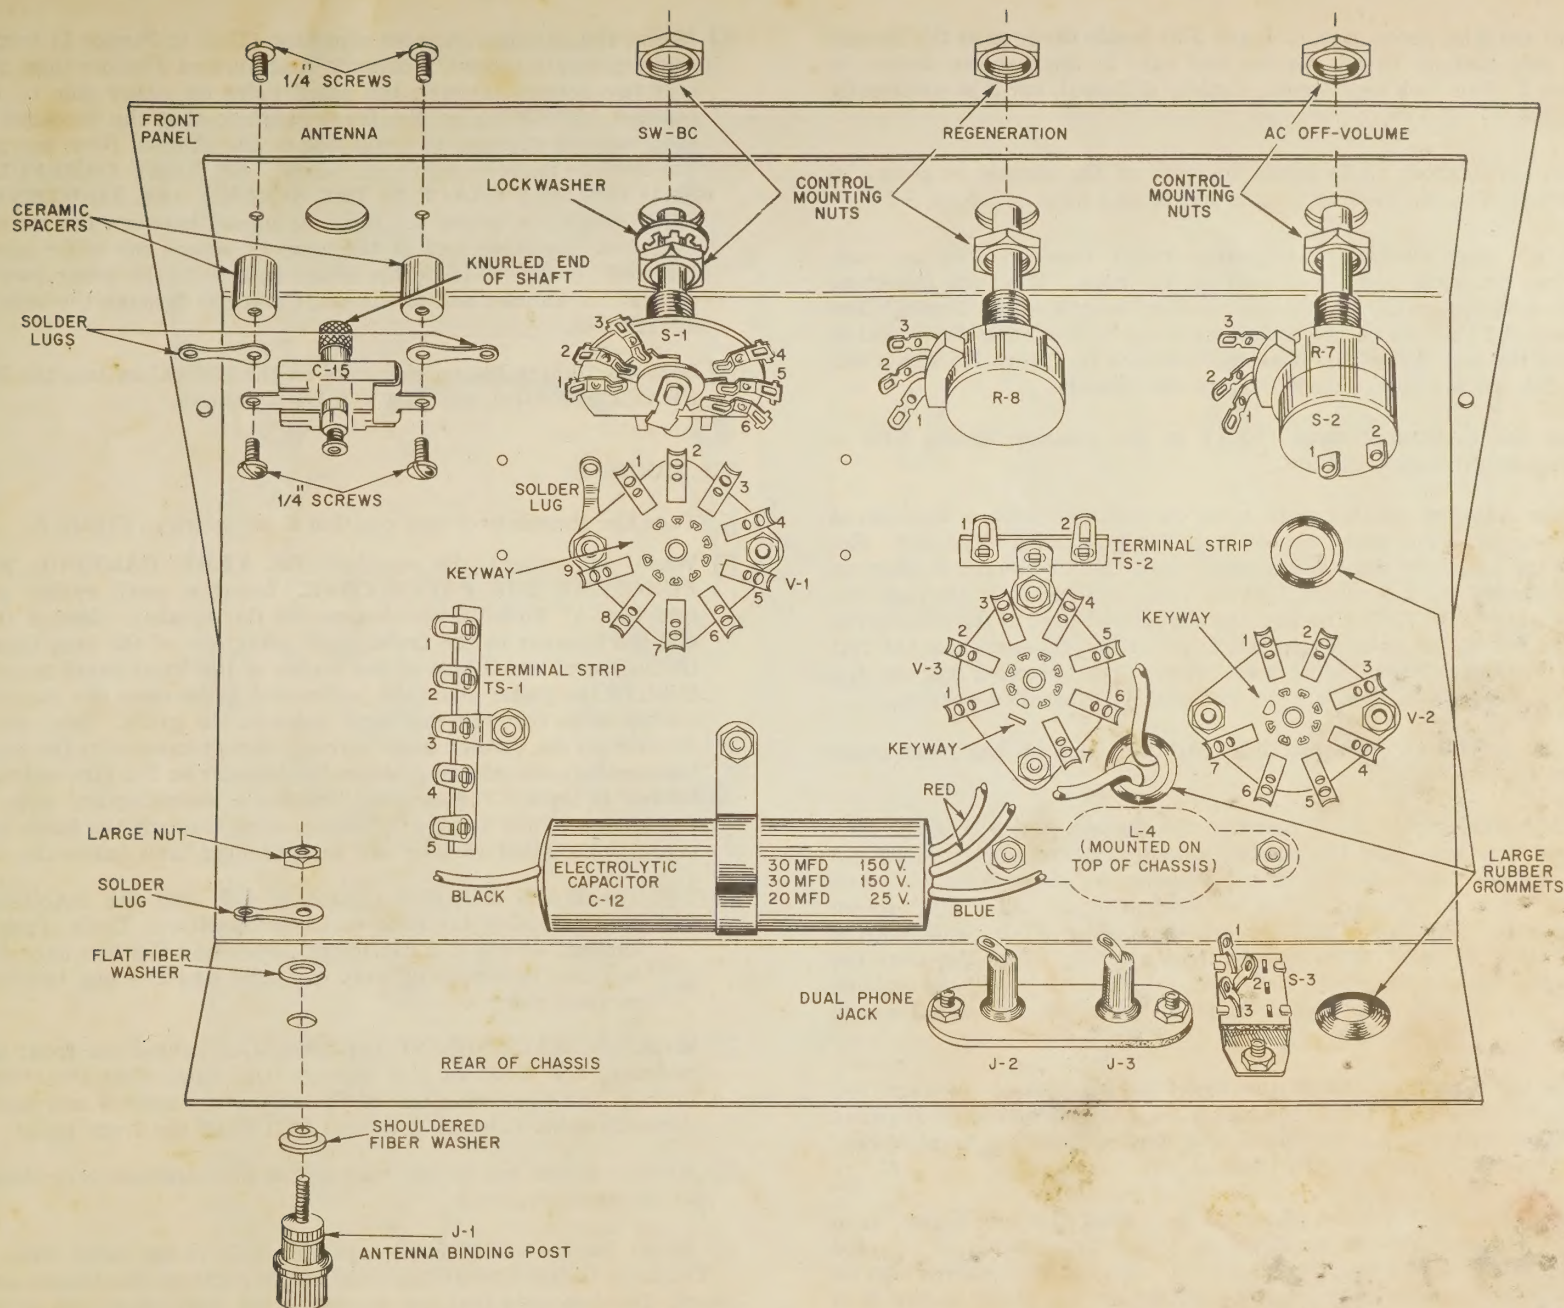
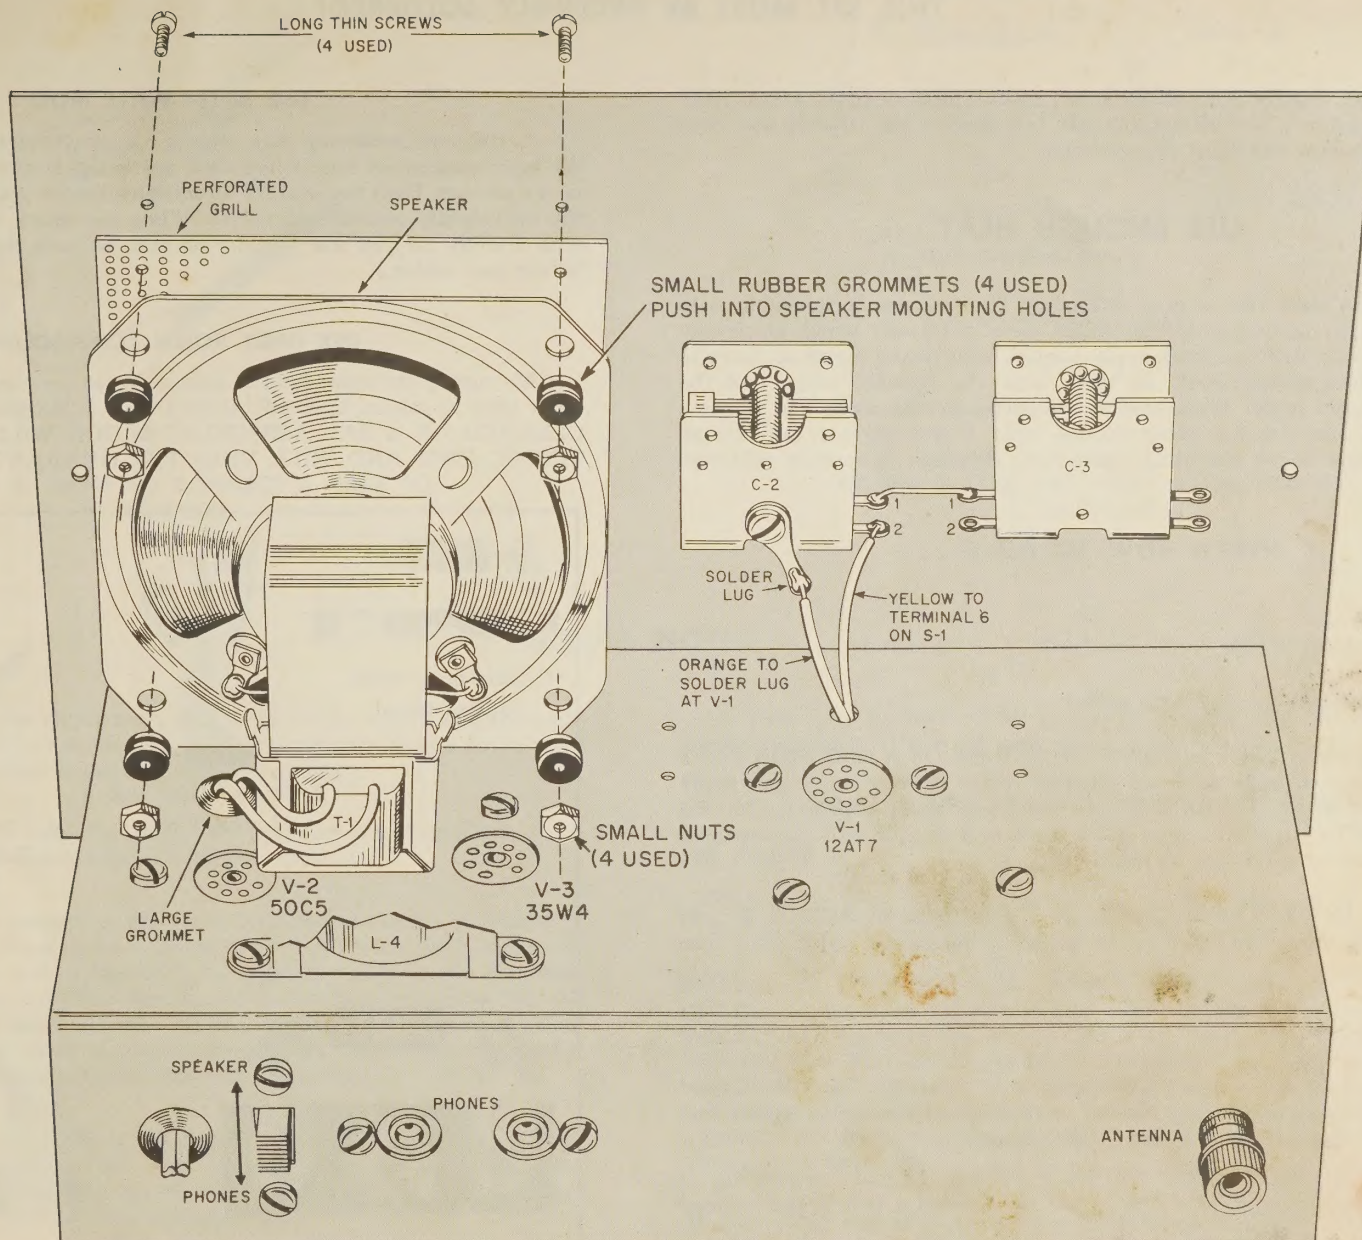

FIGURE 1. HOW TO MOUNT THE PARTS ON THE CHASSIS
FIGURE 2. HOW TO MOUNT THE PARTS ON THE FRONT PANEL
SEE FIGURE 1
- ☐ Insert a large grommet into each of the three $\frac{3}{8}$ " holes in the chassis by pushing them into the holes until the grooves around the outer edge of each grommet "locks" into the hole in the chassis. Figure 1 shows the grommets mounted in their proper holes.
- ☒ Three tube sockets are supplied with this kit. Two of them have seven pins and the third has nine pins. One of the 7-pin sockets (labeled V-2 in Figure 1) is to be mounted over the large hole near the right rear edge of the chassis. Mount the 7-pin socket using two medium length screws and two nuts that fit the screws. The screws must be inserted from the outside of the chassis, and the socket must be **mounted inside the chassis**. Notice that there is a wide open space between two of the pins on the socket. This wide space is known as the "keyway",
- ☒ Mount the other 7-pin socket (V-3 in Figure 1) over the large hole near the socket just mounted with two medium length screws and nuts. Notice that a 2-terminal strip (TS-2 in Figure 1) is mounted on top of the socket under the front socket mounting nut. Be sure to position the socket keyway as shown.
- ☒ Next, mount the filter choke (L-4) on the **OUTSIDE** of the chassis using two medium length screws and nuts. The position of the filter choke is indicated by a broken (dashed) line in Figure 1. If you do not know what the filter choke looks like, see Figure 2 on page 5. After L-4 is mounted, push its two wires through the grommet between V-2 and V-3 so they can be connected inside the chassis.
- ❑ Mount the dual phone jack (J-2 and J-3) **inside the rear of the chassis** with two medium length screws and nuts in the position shown in Figure 1. This jack may appear slightly different, but it is electrically identical.
- ❑ Mount slide switch (S-3) inside the rear of the chassis as shown in Figure 1. Use two medium length screws and nuts to mount S-3.
- ❑ C-12 is a large electrolytic capacitor with a black lead on one end, and two red leads and a blue lead on the other. Bend the mounting strap, and mount C-12 with one medium length screw through the chassis and the end of the mounting strap so that the black lead is toward the left side of the chassis, as shown in Figure 1. Use a nut that fits the screw to secure C-12 to the chassis.
- ❑ When you mount the front panel to the chassis, notice that the four holes in the panel and the chassis match. Tighten a very large nut over the threaded bushing of the volume control, marked R-7 and S-2 in Figure 1. From **INSIDE** the chassis insert the shaft through the extreme right hand hole in both the chassis **AND** panel. From **OUTSIDE** the front panel loosely tighten a very large nut over the threaded bushing to secure the panel to the chassis and the volume control to both. The terminals must be positioned as shown in Figure 1.
- ❑ In the same manner, mount the Regeneration control (marked R-8 in Figure 1) in the hole marked REGENERATION on the front panel. The three terminals on the side of this control also must point toward the center of the front of the chassis.
- ❑ Mount the Short Wave-Broadcast switch (marked S-1 in Figure 1) in the hole marked SW-BC on the front panel. This switch is mounted the same way as the volume and regeneration controls, except that an internal-tooth lockwasher must be placed on the shaft before it is inserted into its mounting hole. The flat side of this switch must be towards the bend in the front of the chassis, as shown in Figure 1.
- ❑ Mount the antenna trimmer capacitor (C-15 in Figure 1) next with 4 medium length screws, 2 ceramic spacers, and 2 solder lugs. First, insert two screws through the small holes on either side of the hole marked ANTENNA on the front panel so that the threaded part of each extends through to the inside of the chassis. Now, screw one of the ceramic spacers onto each screw. **BE VERY CAREFUL. THE SPACERS MAY CRACK IF THE SCREWS ARE TIGHTENED TOO SECURELY.** A solder lug must be placed between the terminals of C-15 and the other end of the spacers before the other screws are inserted. Secure C-15 to the other end, with the other two screws, so that the knurled end of the shaft extends through the hole marked ANTENNA.
SEE FIGURE 2.
- ❑ Turn the chassis over and position it as shown in Figure 2.
- ❑ Mount a solder lug on the rear of C-2 with another very short screw as shown in Figure 2.